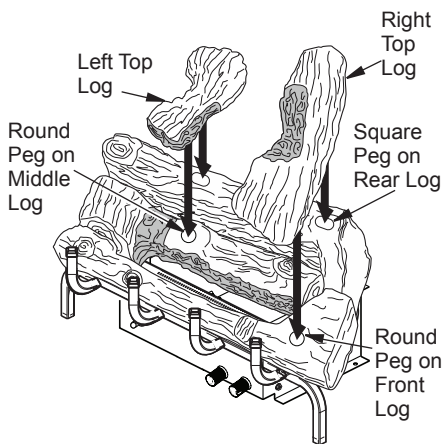

Figure 20 - Installing Left and Right Logs
4. Place left top log (#4) as shown in Figure 20. Match square peg on top of rear log (#1) with square hole on bottom of left top log (#4). Match round peg on top of middle log (#2) with round hole on bottom of left top log (#4).
- Place right top log (#5) as shown in Figure 20. Match square peg on top of rear log (#1) with square hole on bottom of right top log (#5). Match round peg on top of front log (#3) with round hole on bottom of right top log (#5).